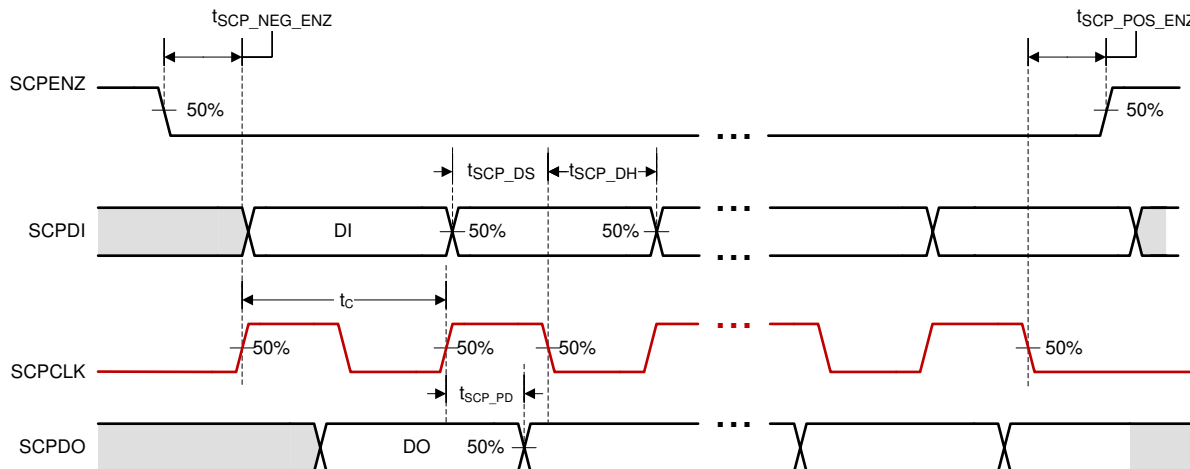

Figure 6-2. SCP Timing Requirements
- (5) Low-speed interface is LPSDR and adheres to the Electrical Characteristics and AC/DC Operating Conditions table in JEDEC Standard No. 209B, "Low-Power Double Data Rate (LPDDR)" JESD209B. Tester conditions for V_{IH} and V_{IL} .
- (6) PWRDNZ input pin resets the SCP and disables the LVDS receivers. PWRDNZ input pin overrides SCPENZ input pin and tristates the SCPDO output pin.
- (7) The SCP clock is a gated clock. Duty cycle must be 50% \pm 10%. SCP parameter is related to the frequency of DCLK.
- (8) See Figure 6-2.